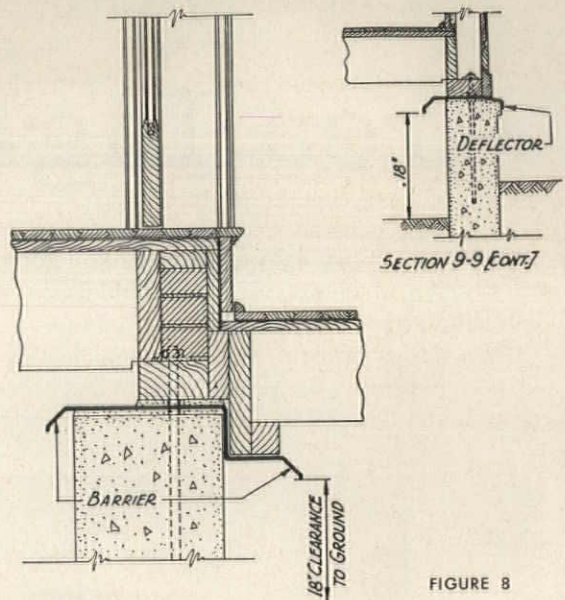

FIGURE 8
**PORCHES** Figure 8 shows shielding applied at a house wall adjoining a porch of wood construction. A barrier shield is necessary throughout, particularly as the area under the porch is rarely easy to inspect. This area should also be well ventilated. The detail at the upper right shows a shield at the outside of the porch. When exposed, a deflector shield can be employed as illustrated, otherwise a barrier type should be used.